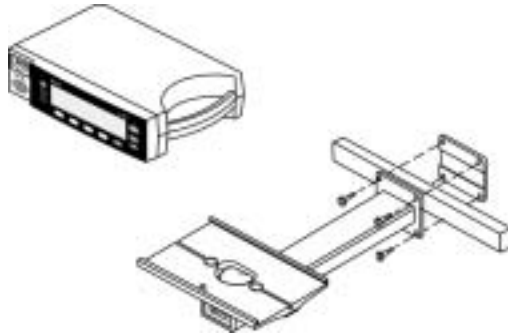

Figure 9: GCX Poly-mount (horizontal wall mount with rail adapter)
- GCX Poly-mount (horizontal wall mount with rail adapter). See Figure 9 on page 107.
The horizontal wall mount with rail adapter attaches to the N-595 pulse oximeter GCX mounting plate as shown in Figure 9 on page 107. For further instructions regarding connecting the horizontal wall mount with rail adapter, refer to the illustrated directions for use included with the horizontal wall mount with rail adapter.